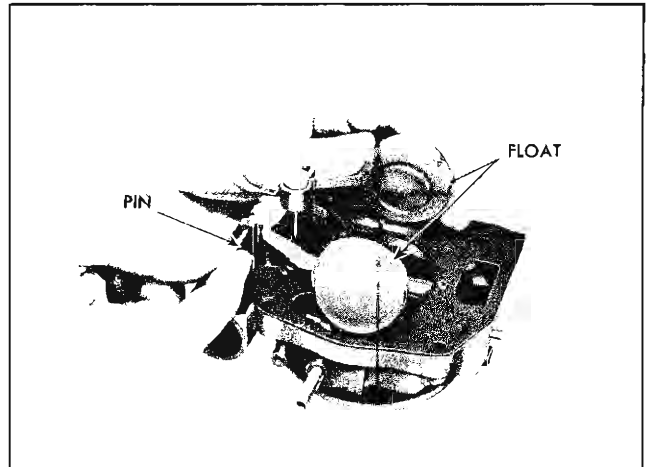

Fig. 6B-19 Removing Float Hinge Pin
1. Remove filter retainer nut and gasket with 1" wrench. Remove filter, spring and gasket (Fig. 6B-17).
so as not to damage floats (Fig. 6B-18). Place air horn float side up on flat surface.
3. Remove float hinge pin (Fig. 6B-19) and lift float assembly from air horn. Float needle may now be removed.